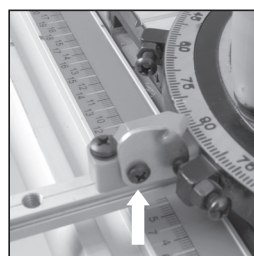

FIG. 22
- If necessary adjust the 'stop plate' mounting screw so that plate moves easily and the swage always rests upon but cannot slide past the plastic index pointer. (**Fig. 22**)